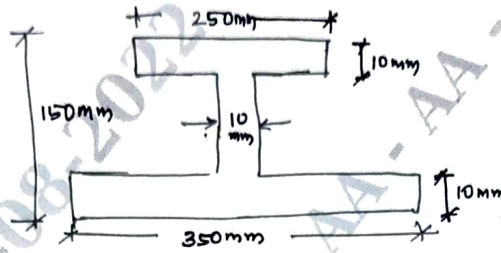

Fig.Q8(b)
b. Determine Euler's crippling load for an I-section column as shown in Fig.Q8(b), having a length of 6m which is used as a strut with both ends fixed. Take $E = 2 \times 10^5 \text{ N/mm}^2$, FOS = 3.